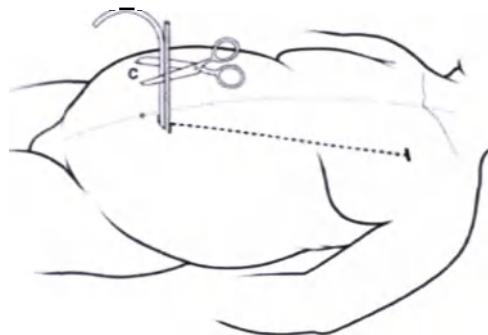

Figure 14
See Figure 14.
7. Hold the external limb of the Lower Catheter next to, and parallel to, the Measuring Rod. Using the centimeter markings on the Measuring Rod, cut the Lower Catheter at the C length above the level of the fascia (Figure 14). Make a single, straight, perpendicular cut of the tubing with suture scissors.